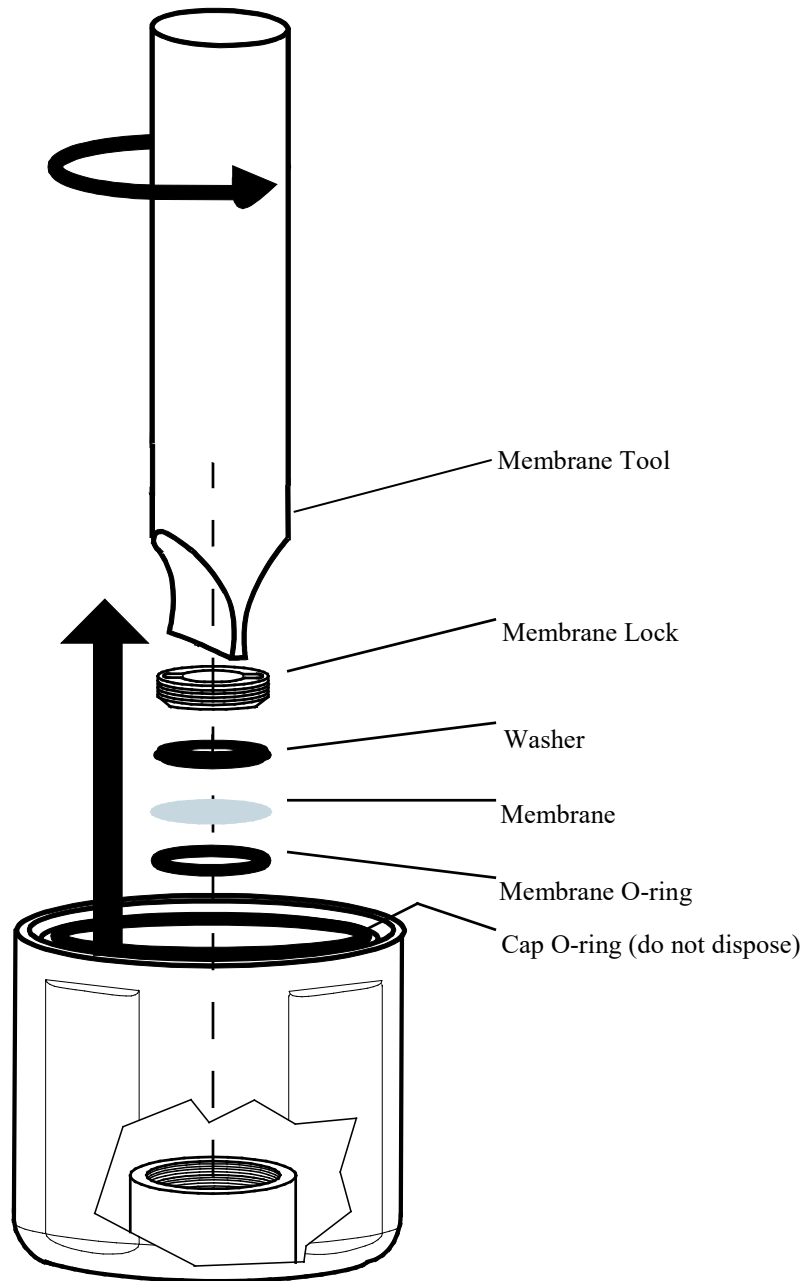

FIGURE 8-2. Remove membrane and membrane O-ring
3. Using the membrane tool, unscrew the membrane lock that is in the lower body (FIGURE 8-2).
4. Remove and dispose of the membrane and its O-ring (FIGURE 8-2).